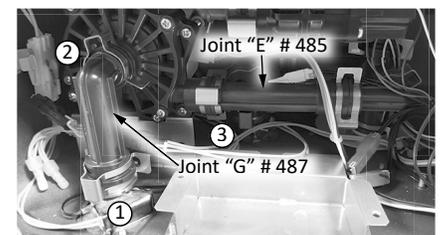

Figure 82: Metal Fastener and Pipe Joint Removal.
6 Remove the three metal fasteners securing the plastic piping to the recirculation pump. ① uses a 16A metal fastener, Connections ② and ③ use 12.7A metal fasteners. See Figure 82.
7 Remove the plastic piping Joint “E” and Joint “G”. Set these sections aside for re-installation. See Figure 82.
20 Reconnect plastic piping joints. Inspect the O-rings, if any cuts or nicks are present replace them immediately. See Figures 82 & 83.
21 Reattach the three metal fasteners securing the plastic piping joints to the recirculation pump. ① uses a 16A metal fastener, Connections ② and ③ use 12.7A metal fasteners. See Figure 82.